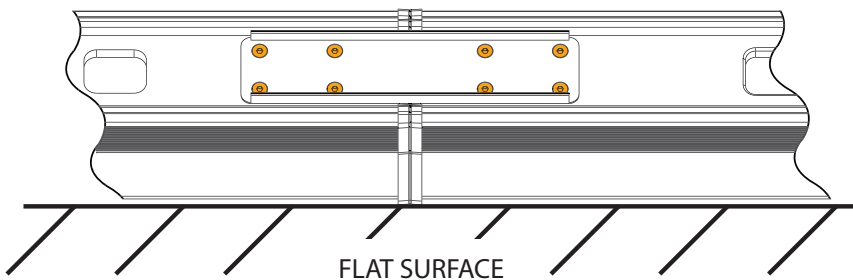
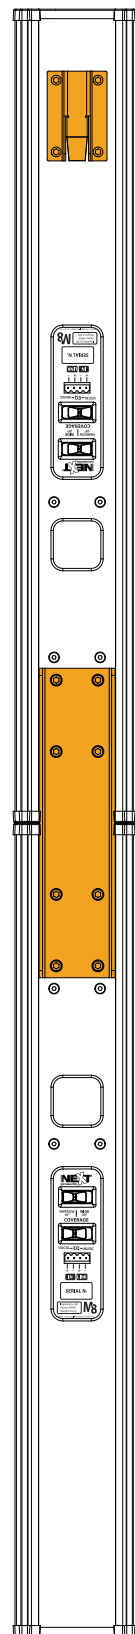

Fig. 14
Fig. 15
- 3 - Install the Extension Link Plate using the bolts and washers supplied on the kit (Fig. 14). Both speaker tops must be joined together with the top speaker placed in a upside down position (Fig. 15).